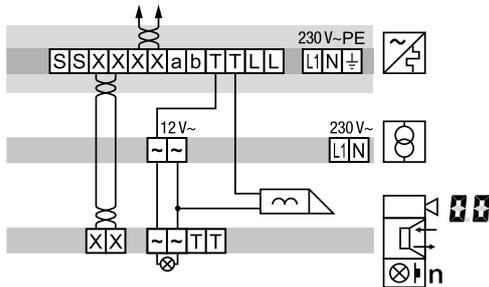

Figure 9: Connection of door station video with manipulation-protected door release
- For an installation with anti-tamper system, connect the door release to the contact **□** of the line power supply (Figure 9).